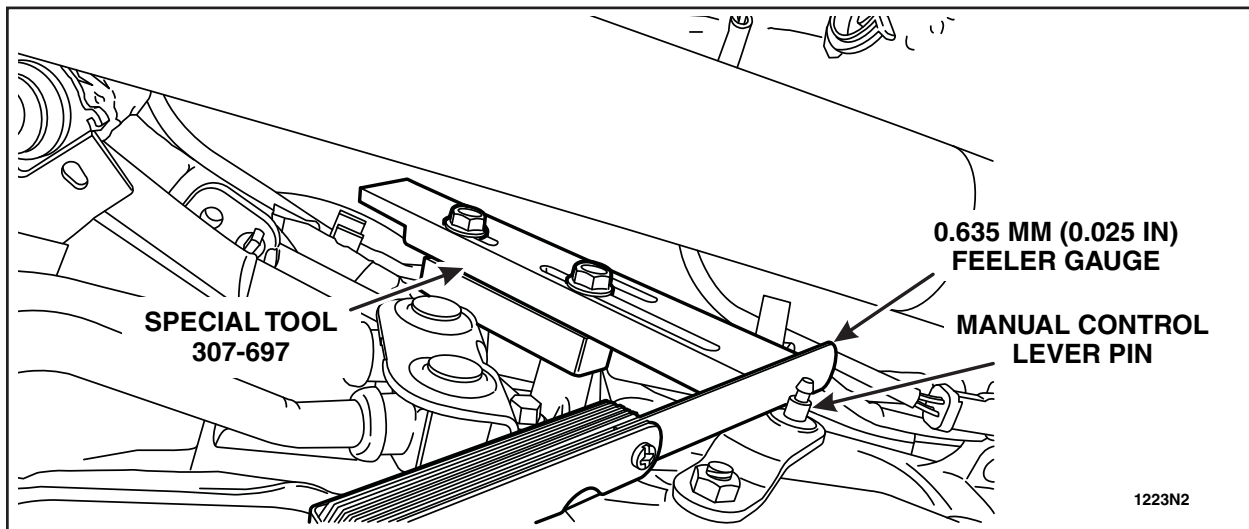

FIGURE 5
11. Install a 0.635 mm (0.025 in) feeler gauge between special tool 307-697 and the manual control lever pin. See Figure 5.